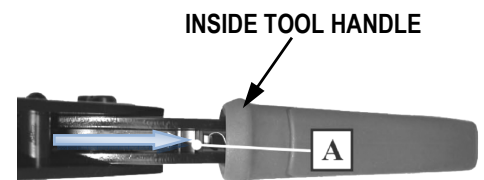

Figure 7
2. While applying pressure on the tool handles, push the ratchet release (A) located inside the moving handle, in the direction shown. See Figure 7.